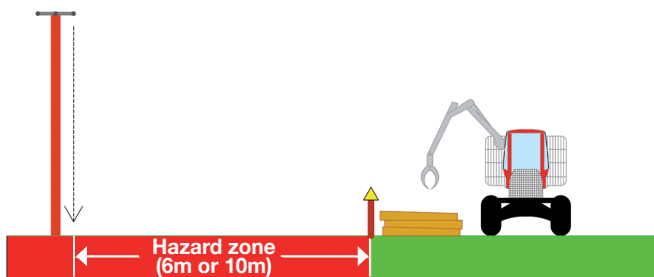

Figure 5
- Timber must be placed outside the OEL hazard zone to enable safe extraction when the OEL is re-energised. Extraction machinery must never encroach the OEL hazard zone (see figure 5.)
- 41** Do not operate a forwarder or skidder if any part of the machine or its load (product being lifted) is likely to come within Hazard Zone of energised OELs. Where necessary, clearly mark the limit of work in relation to the energised OELs (see Figure 5). Use high-visibility tape or other markings.